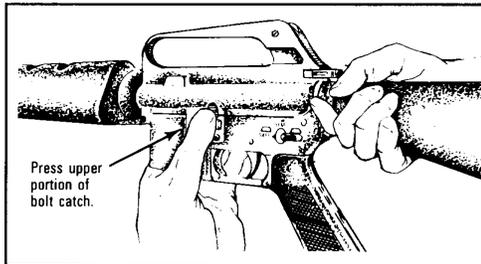

Figure 10-4. Releasing the Bolt
- f. Allow the bolt to go forward by pressing the upper portion of the bolt catch (figure 10-4).